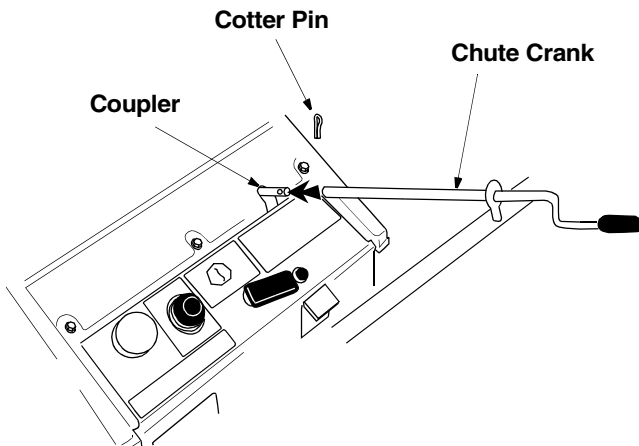

Figure 6
- Insert the chute crank into the coupler at the top right side of the snow thrower. See Figure 6.
- Rotate the crank to align holes, and insert the cotter pin. Bend ends of cotter pin in opposite directions to secure. See Figure 6.